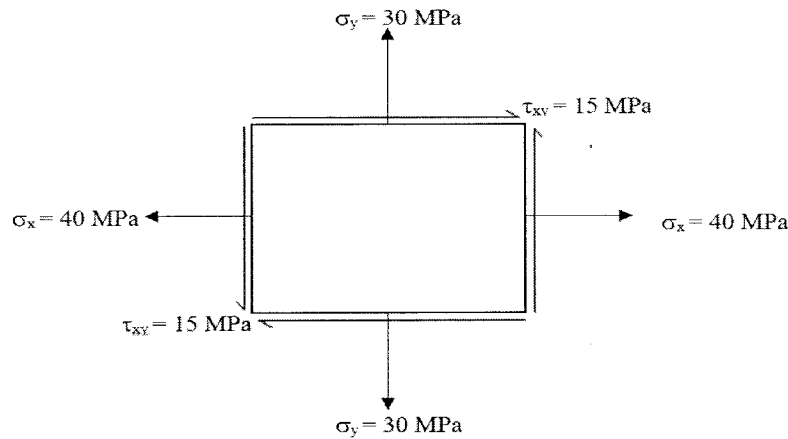

Fig. 7
7. Determine the principal stresses, principal planes and maximum shearing stresses for an element subjected to state of stress as shown in Fig. 7